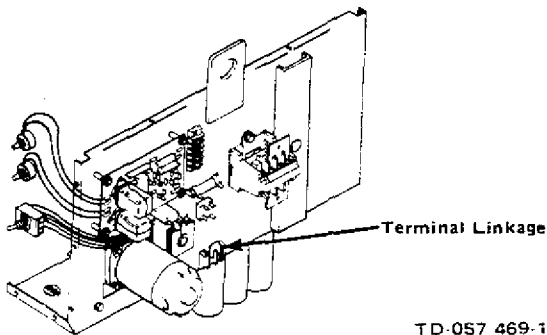

Figure 3-4. Primary Voltage Terminal Strip Location
3. Locate Terminal Linkage where indicated in Figure 3-4.